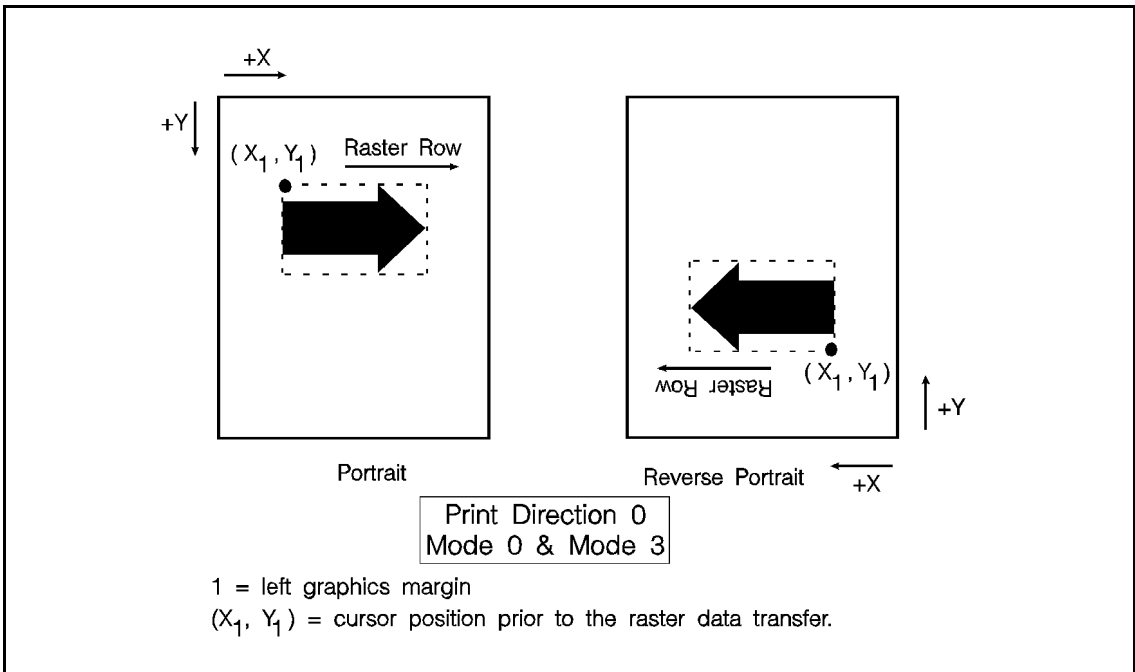

Figure 6-4. Raster Graphics Presentation Mode for Portrait Orientation
- A value of **3** indicates that the raster graphics will be printed along the width of the physical page, regardless of logical page orientation. In portrait orientation, a raster row is printed in the positive X-direction of the PCL coordinate system and a subsequent raster row is printed beginning at the next dot row position in the positive Y-direction. In landscape orientation, a raster row is printed in the positive Y-direction of the PCL coordinate system and a subsequent raster row is printed beginning at the next dot row position in the negative X-direction. Figure 6-4 illustrates presentation modes 0 and 3.